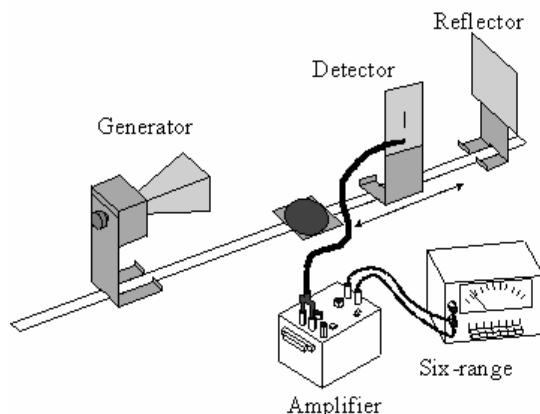

Fig. 10. Reflector placed by microwave detector probe.
We have seen how a grid of wires acts like a mirror for microwaves. A metal plate can be thought of as the limit as the spacing between the wires vanishes. Microwaves reflected from a metal plate have the same frequency and wavelength as the incident microwaves. At certain distances along the path, the electric fields of the two waves will constructively interfere and produce a maximum signal in the detector probe, while at other locations they will destructively interfere and produce a minimum signal. This will occur, for example, between the detector and reflector in Fig. 10, which we will next investigate. The incoming field from the generator will be reflected from the metal plate and subsequently interfere with the incident wave. Certain positions of the reflector will therefore cause maximum and minimum voltages in the
2. Using a BNC-to-banana adapter, plug the probe into the IN of the amplifier. One of the arms of the BNC-to-banana adapter has a tab, which indicates it should be plugged into the ground (black) terminal. Position the diode at about 50 cm from the front of the microwave generator's horn and oriented vertically, as shown in Fig. 10. Make sure the orientation of the generator is 0° .
5. Place a reflector (solid flat piece of metal) behind the detector probe, as shown in Fig. 10. This will produce a standing wave between the generator and the reflector. Making sure to keep the probe at least 50 cm from the generator, slide the probe along the leg of the goniometer, and notice there are positions of maxima and minima signal strength. Slide the detector probe along the goniometer, no more than a cm or two, until you determine a maximum signal. Then slide the reflector, again no more than a centimeter or two, until you obtain another signal strength maximum. Continue making slight adjustments to the detector probe and reflector until the meter reading is as high as possible, but not pegging on the 10 V scale. If this occurs, move the generator back further away.